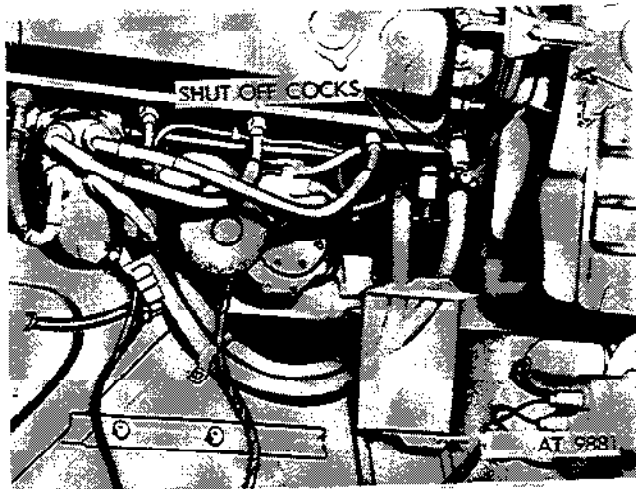
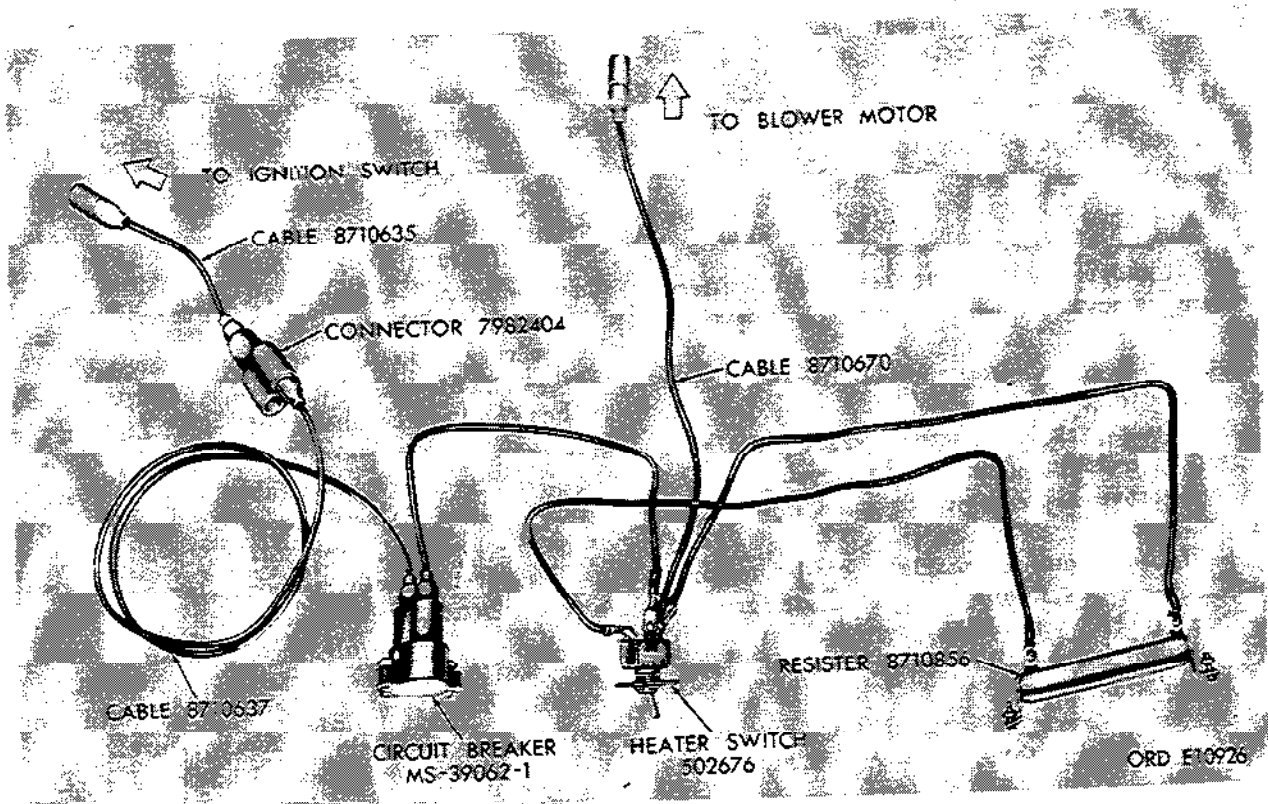
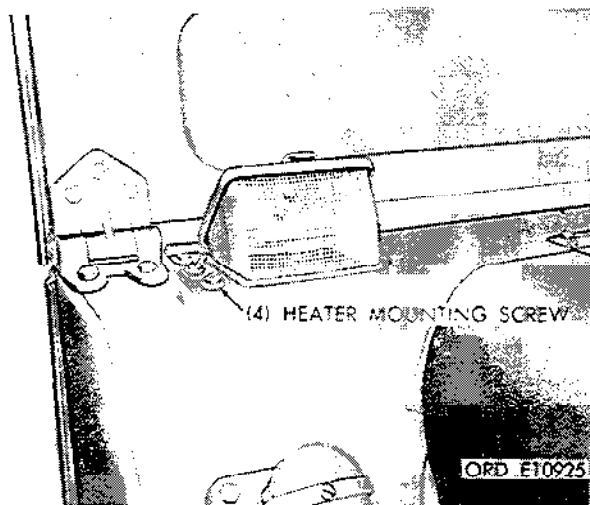

Figure 3-19. Heater shut-off cocks and heater hoses.
Figure 3-20. Wiring assembly—hot water heater.
Figure 3-21. Heater mounting.
- (1) Close both shut-off cocks by turning clockwise (fig. 3-19).
- (2) Remove four weldment screws and washers.
- (3) Disconnect blower motor cable from circuit breaker cable (fig. 3-20).
- (4) Disconnect two hoses from heater core.
- (5) Remove two toeboard-to-bracket-retaining screws, flat washers, and weldment heater nuts.
- (6) Remove four top cowl-to-core heater mounting retaining screws, washers, and lock-washers (fig. 3-21).
a. Removal. Refer to figure 3-19.
- (1) Close both shut-off cocks by turning clockwise.
- (2) Remove diverter box (para. 3-27).
- (3) Remove hose retaining clamp screw, washer, and nut from right fender apron and remove clamp from hoses.
- (4) Remove hose support clamp from heater hose at bend around firewall.
- (5) Loosen hose clamp screw and remove hose from shut-off cock.
- (6) Loosen clamp screw and remove hose from heater core tube. Remove hose clamp from hose.
- (7) Pull hose from engine compartment through grommet in right tunnel panel.
- (1) Drain coolant.
- (2) Disconnect hot water hose at shut-off cock.
- (3) Remove shut-off cock from adapter.
a. Removal. Refer to figure 3-20.
(1) Remove two circuit breaker retaining screw, lockwashers, and nuts on left body side panel.
(2) Disconnect cables from circuit breakers.